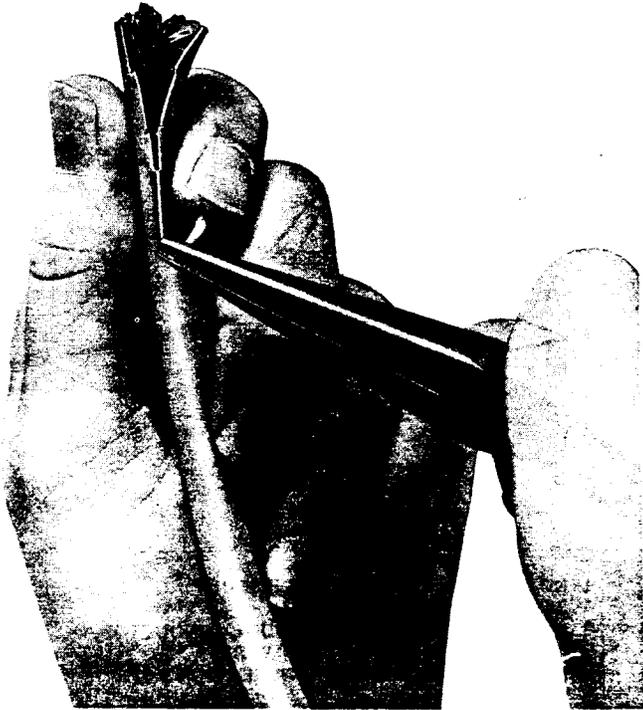

Fig. 7—Stripping D Inside Wiring Cable or H Station Wire
- (1) Slit end of jacket with diagonal pliers for approximately 1 inch.
- (2) Locate jacket-slitting nylon cord under jacket.
- (3) Grasp cable firmly in one hand, and using long-nose pliers pull nylon cord through cable jacket to the desired stripped length (Fig. 7).
- (3) Grasp wire firmly in one hand, and using long-nose pliers pull nylon cord through jacket to the desired stripping length (Fig. 7 and 8).